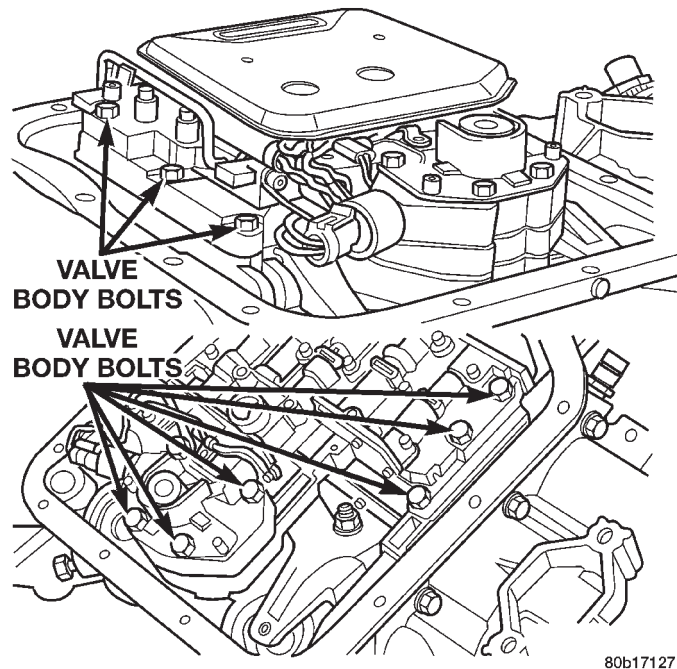

Fig. 98 Valve Body Bolt Locations
(8) Remove park/neutral position switch.
(9) Remove hex head bolts attaching valve body to transmission case (Fig. 98). A total of 10 bolts are used. Note different bolt lengths for assembly reference.